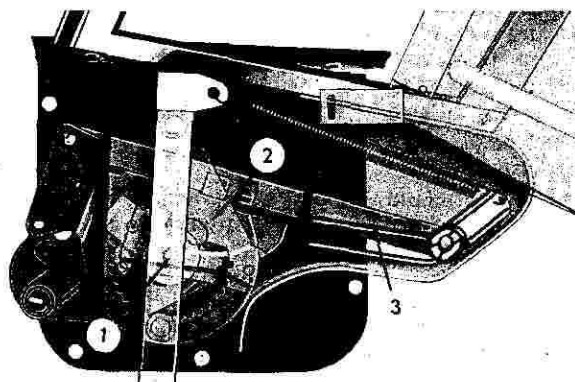
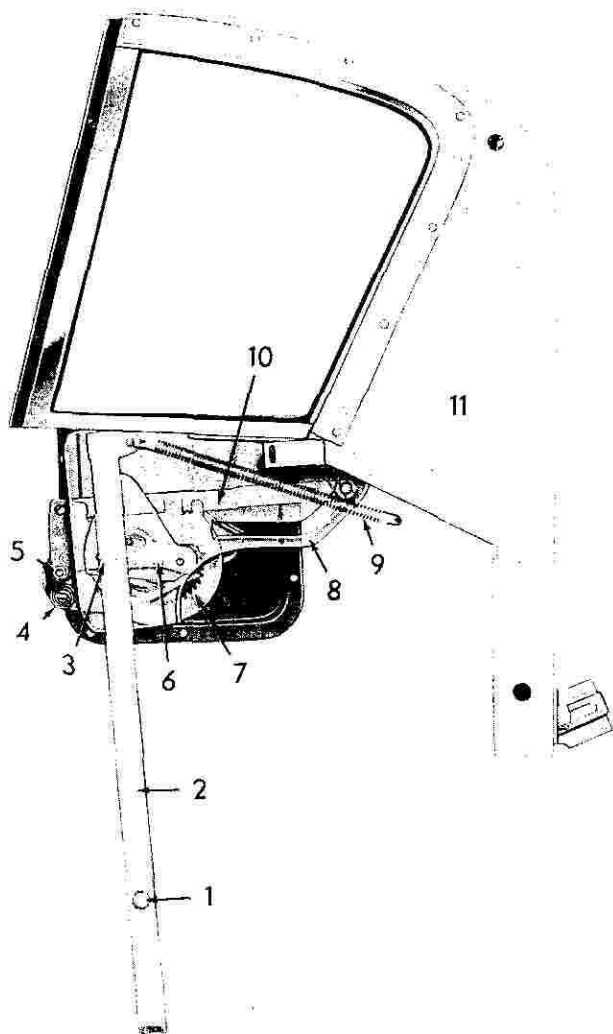
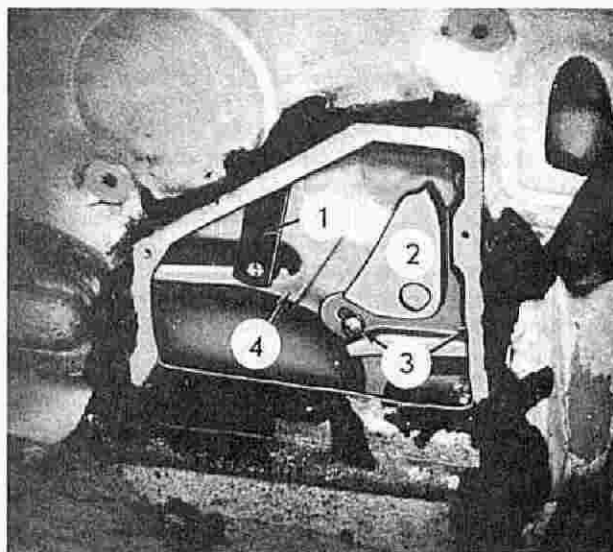

FIG. 181
FIG. 180
FIG. 185
Fig. 180 illustrates the rear quarter window in the fully closed position. The purpose of the spring (4) is to hold the regulator and keep the window in the closed position. As the regulator is turned, the regulator is disengaged from the spring and the regulator arm pushes the window lift channel (8) rearward and slightly downward. The horizontal guide (3) which is attached to the lift channel follows the regulator pivot pin (6) as the window moves rearward. Near the end of the rearward travel, the regulator arm stud is at the curve in the lift channel and the regulator pin starts to leave the channel of the horizontal guide as shown in Fig. 181. Further movement of the regulator then moves the regulator stud past the curve in the lift
Roll the window all the way down, remove regulator arm clip and washer, and disengage arm (1, Fig. 185) from lift channel (4). Remove regulator plate screws, slip the plate up to disengage it from the channel at the top of the inner panel, and remove the plate and regulator as a unit (see Fig. 186). Remove the window outer weather seal strip.
A stud on the window regulator slides along the edge of the horizontal guide (Fig. 181) during the first few inches of window travel when opening; also during the last few inches of window travel when closing. An adjustment for ease of operation can be made by loosening the two screws (3, Fig. 185) holding the guide to the lift channel and moving the guide as desired.
If the window does not hold in the closed position, loosen the regulator screws (4, Fig. 184) and rotate the regulator as necessary to secure proper engagement of the regulator lock pin (5, Fig. 180) and the spring (4).